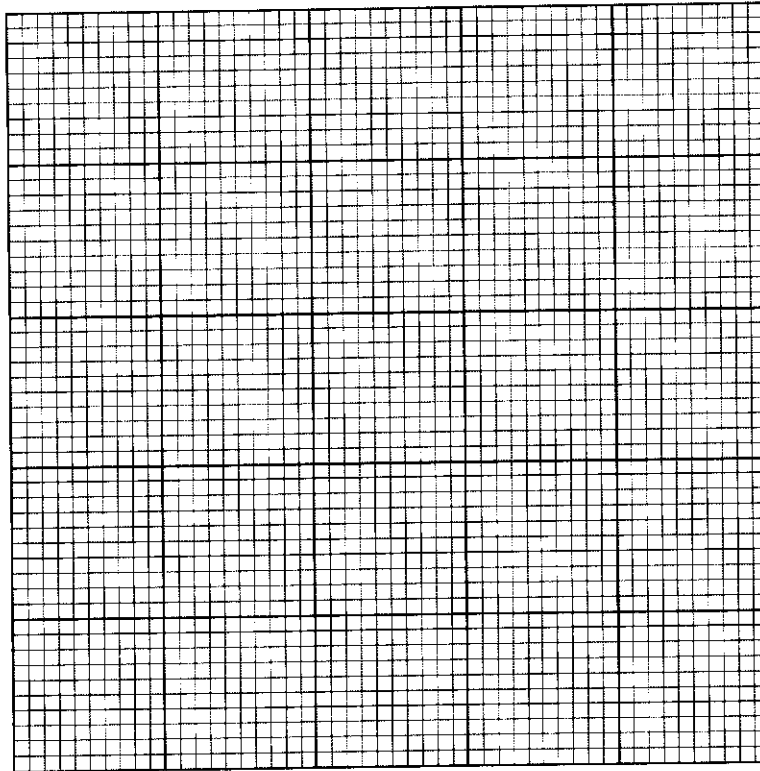

Fig. 2.3
- (i) Draw a bar chart of the data in Table 2.3 on the grid in Fig. 2.3.